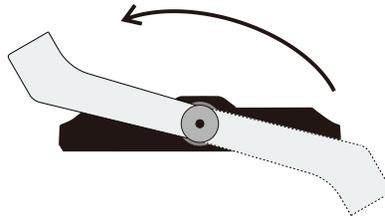

Fig. 11
2. If mounting fixture upside down, rotate the yoke mount bracket into correct position (Fig. 11).